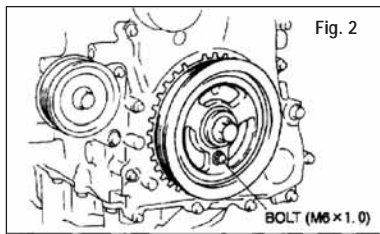

Fig. 2
2) Install the M6 x 1.0 bolt by hand as shown in **Figure 2**, below.